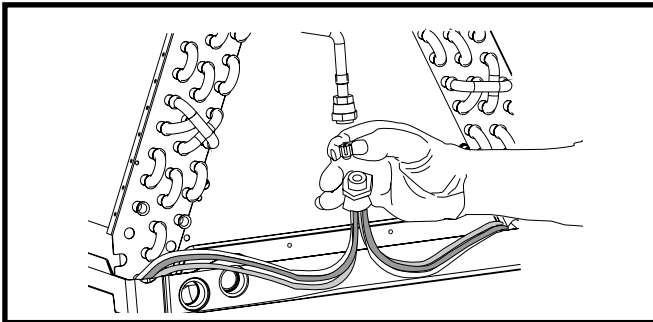

Figure 7. Removal of Orifice
8. Insert the new orifice into the distributor body, rounded end down. See Figure 7.